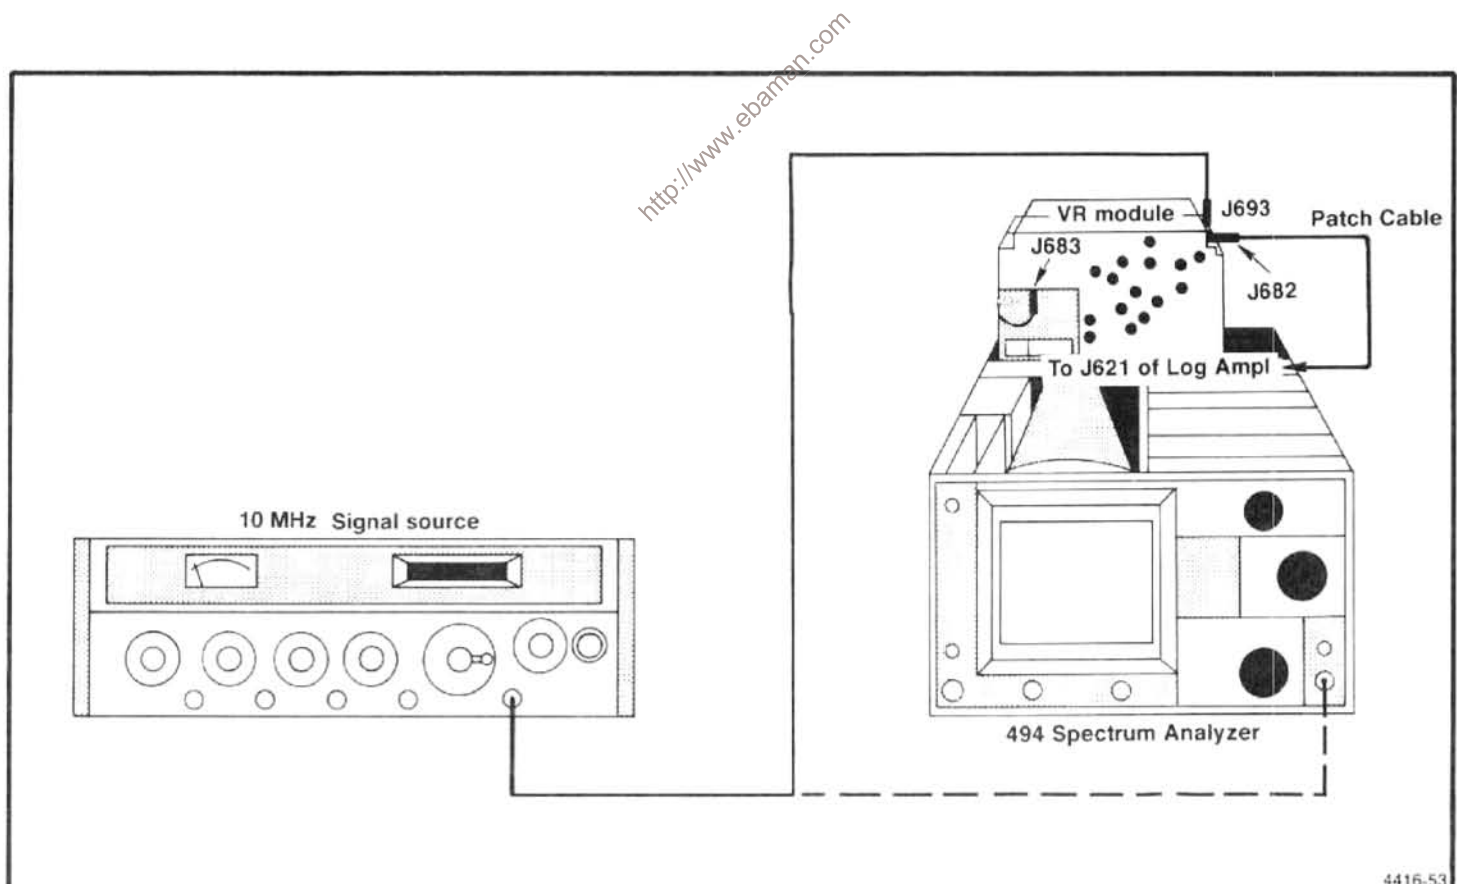
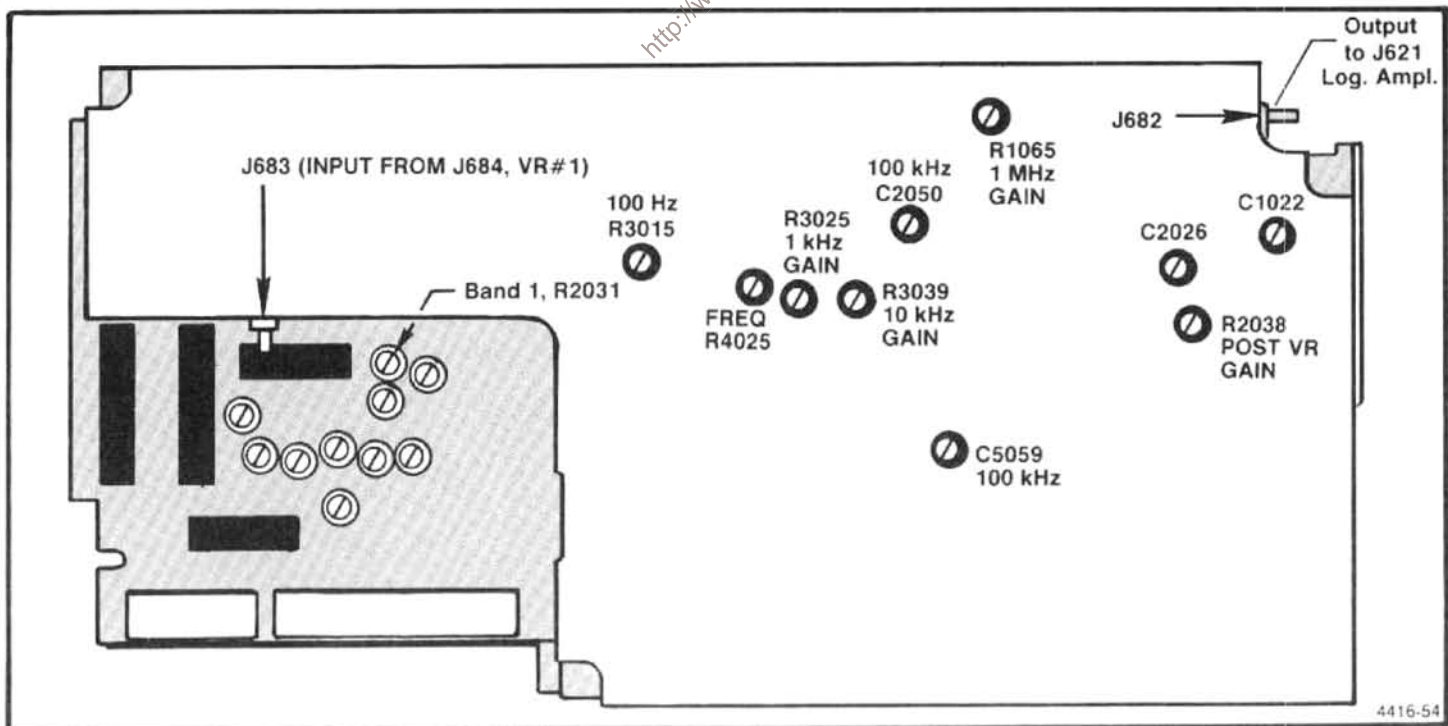
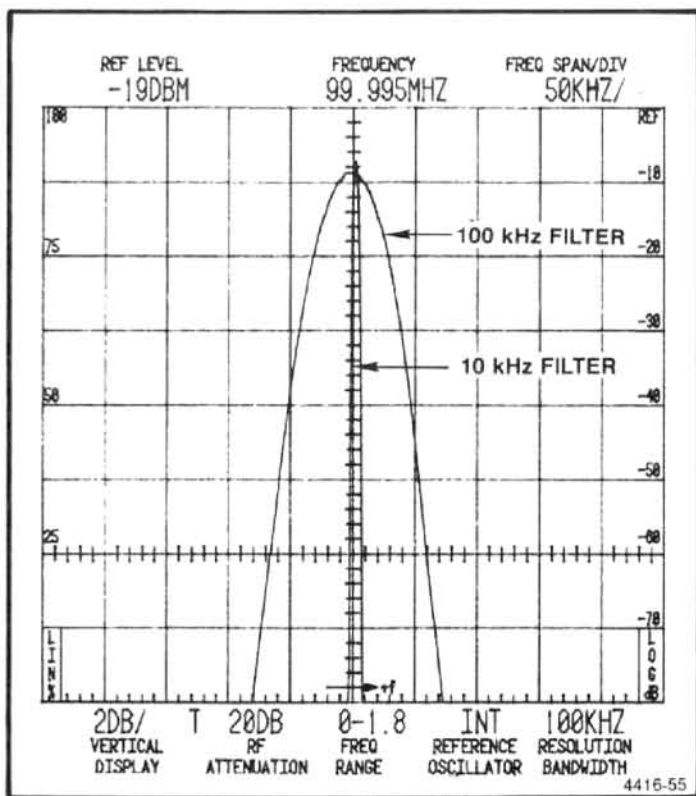

Figure 5-18. Equipment setup for calibrating the VR system.
Figure 5-19. Adjustments on the VR#2 module.
Figure 5-20. Response of the 100 kHz filter over the response of the 10 kHz filter.
a. Equipment setup is shown in Figure 5-18.
(1) Remove and install the VR module on an extender. Connect the output 10 MHz IF signal, from the 3rd Converter, to the input of the VR#2 section. Use a Sealectro male-to-male adapter and coaxial cable to connect between P693 and J683.
(2) Connect the output of VR#2 to the input of the Log Amplifier assembly by connecting a cable from J682 to J621 (see Figures 5-18 and 5-17).
(3) Apply the CAL OUT signal to the RF INPUT. Set the FREQUENCY to 100 MHz, FREQ SPAN/DIV to 50 kHz, RESOLUTION BANDWIDTH to 10 kHz, REF LEVEL to -20 dBm, and activate 2 dB/DIV.
d. Adjust C2050 and C5055 on the 2nd Filter Select in VR#2 (Figure 5-19) for the best 100 kHz filter response (100 kHz bandwidth, 3 dB down, that is centered about the 10 kHz reference). Refer to Figure 5-20.
f. Switch the FREQ SPAN/DIV to 500 kHz and the RESOLUTION BANDWIDTH to 1 MHz. Adjust REF LEVEL to set the 1 MHz response amplitude to that of the 10 kHz reference, then adjust C2026 and C1022 (Figure 5-20) for the best 1 MHz response centered about the 10 kHz filter response.
h. Adjust the frequency of the temperature compensated crystal filter with R4025 (Figure 5-19) for maximum signal amplitude. Deactivate SAVE A.
Locations of the adjustments are shown in Figure 5-20 and 5-21. If any change is made in the 100 Hz response the 30 Hz Gain should be readjusted.
b. Test equipment setup is shown in Figure 5-18. Set the FREQ SPAN/DIV to 1 MHz, RESOLUTION BANDWIDTH to 100 kHz, REF LEVEL at -20 dBm, and activate 2 dB/DIV.
(1) Remove the cover for the VR#2 module. Disconnect the jumper connector to the input of the Post VR Amplifier (pin JJ).
(2) Apply a 10 MHz, -14 dBm signal, from a 50 Ω signal source, to pin JJ of the amplifier.
(3) Adjust Gain R2038 for a full screen display.
(4) Remove the signal from the input to the Post VR Amplifier and replace the jumper connector to pins JJ at the input to the Post VR Amplifier. Replace the cover for the VR#2 module.
d. Adjust the front panel AMPL CAL to its fully counterclockwise position and set the Band 1 Gain R2031 on VR#2 (Figure 5-19) fully counterclockwise.
f. If the signal amplitude is over 5 divisions, adjust Post VR Gain R2038 on VR#2, (Figure 5-19) for a 5 division signal amplitude. If the signal amplitude is less than 5 divisions proceed to part "g" of this step.